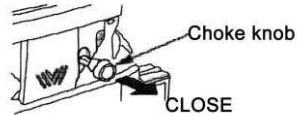

Fig.10
2. Push the choke lever to “CLOSE”. (Fig.10)。